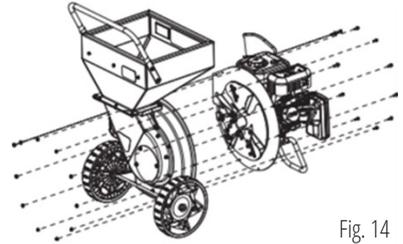

Fig. 14
2. Detach the rotor housing and hopper from the rotor plate. SEE FIGURE 14